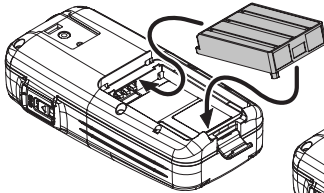

FIGURE 2
- ❑ Turn over the **FBA-44** Battery Case, then insert the **FBA-44** Battery Case into the Battery Compartment, by a same manner of the installation of the **FNB-122LI** (Figure 2).